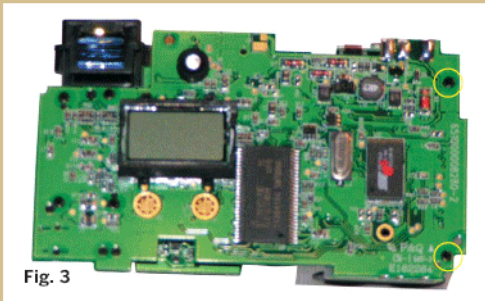
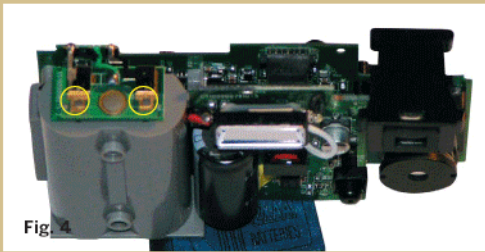
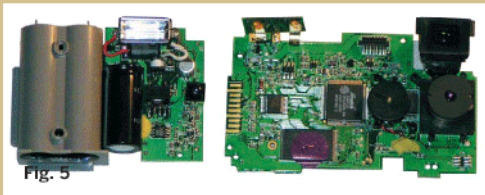

Fig. 3
Fig. 4
Fig. 5
**Remove battery compartment.** Fig. 3 identifies two screws that need to be removed. Fig. 4 identifies two more screws to remove. The wire holding the shutter switch is very thin, so be careful not to let it wobble around too much, or you will make more work for yourself re-soldering the wire back in place. Gently pull the two pieces apart (Fig. 5). The interface will be clearly visible on the left-hand side of the lower assembly.